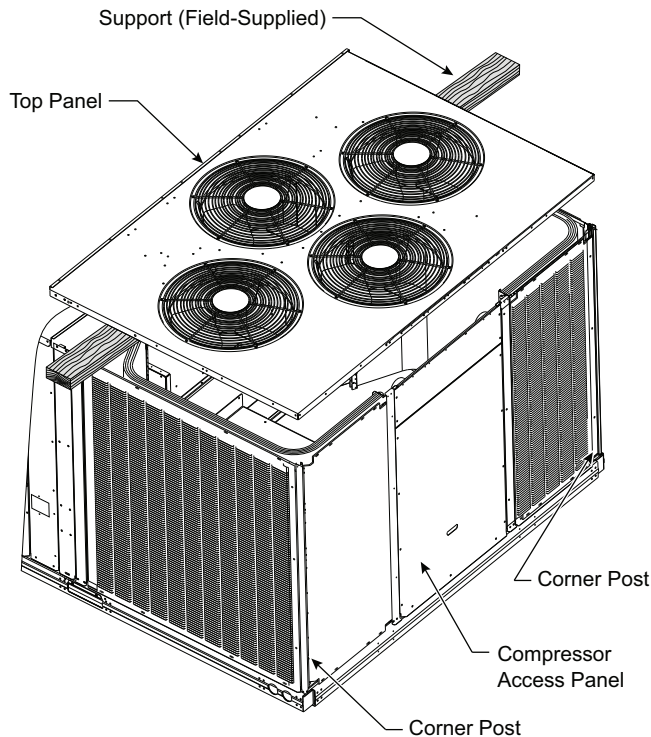

Fig. 17 — Top Panel Removal
3. Lift the top panel at the condenser fan end and support the top panel so it remains level while resting on the condenser fans as shown in Fig. 17.
4. Remove the compressor access panel to access the lower coil clips. The condenser coil corner post may also be removed. See Fig. 17.